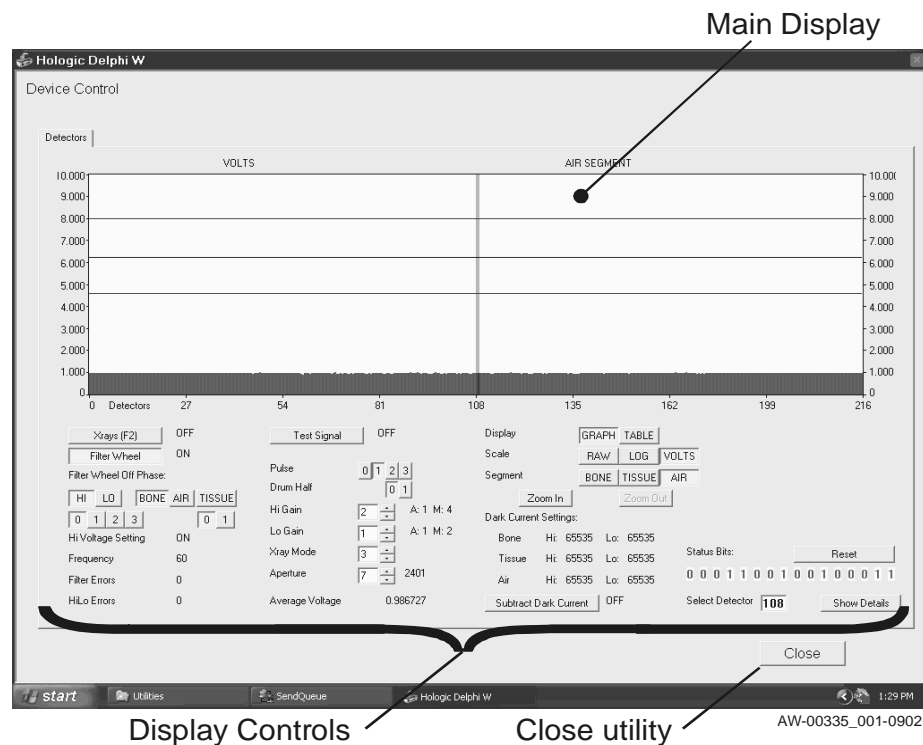

Figure 9-1. The Main Display Controls
2. Click **Utility > Service Utilities > X-Ray Survey** and the X-Ray Survey utility screen will appear (see Figure 9-1).